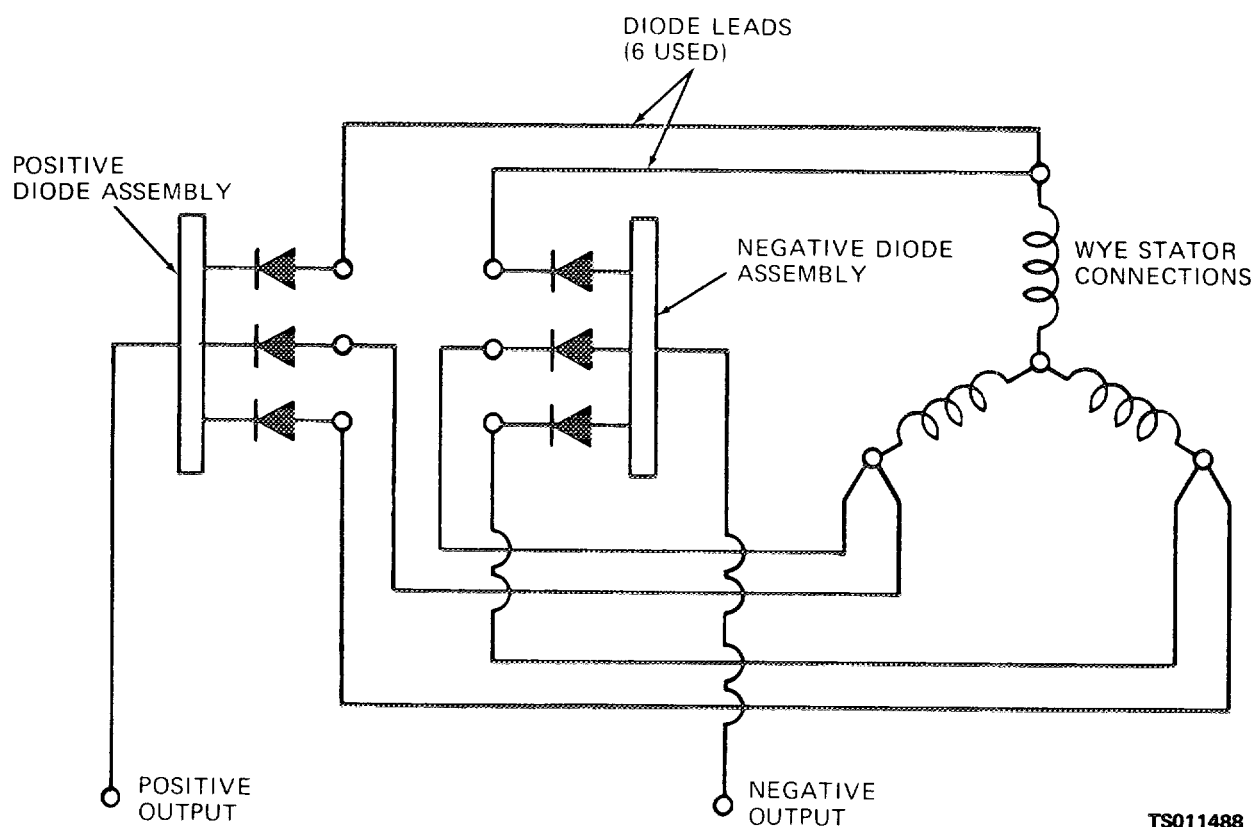

Figure 3-9. Stator winding and connections.
(1) Test the diodes with a diode tester according to the instructions of the equipment manufacturer. To test, it will be necessary for you to unsolder the leads from the stems of the positive and negative diode assemblies for individual testing. When you solder and unsolder leads from the diodes, use long nose pliers to grasp the diode stem between the diode and the stator lead to be removed. This will give better heat dissipation and protect the diode from damage. You should make note of the diode to stator lead connections to facilitate reassembly. If one diode is bad, you must replace the entire diode assembly. The positive diode assembly has red printing on the diode body; the negative diode assembly has black printing. Refer to figure 3-9.